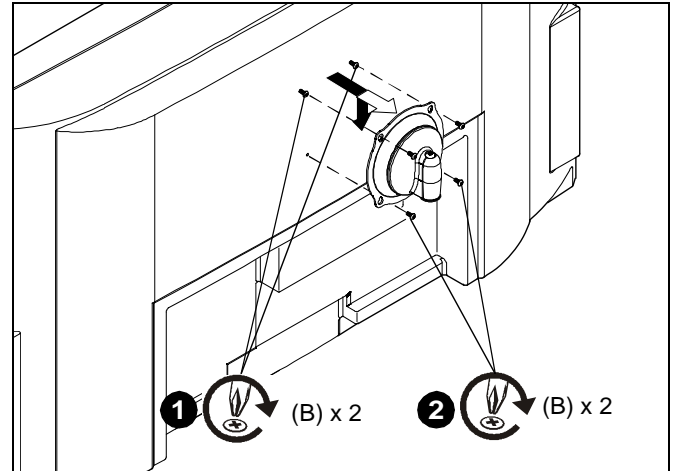

Figure 4
1. Start two M4 x 8mm Phillips pan head screws (B) into upper mounting holes in display back. (See Figure 4)
2. Install two M4 x 8mm Phillips pan head screws (B) through bottom holes of faceplate and into display back. (See Figure 4)